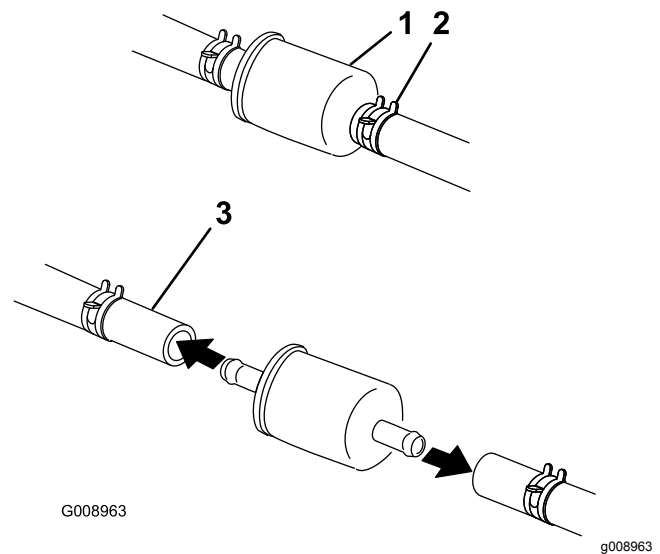

Figure 61
4. Close the fuel-shutoff valve under the seat (Figure 61).
5. Squeeze the ends of the hose clamps together and slide them away from the filter (Figure 61).
7. Install a new filter and move the hose clamps close to the filter (Figure 61).